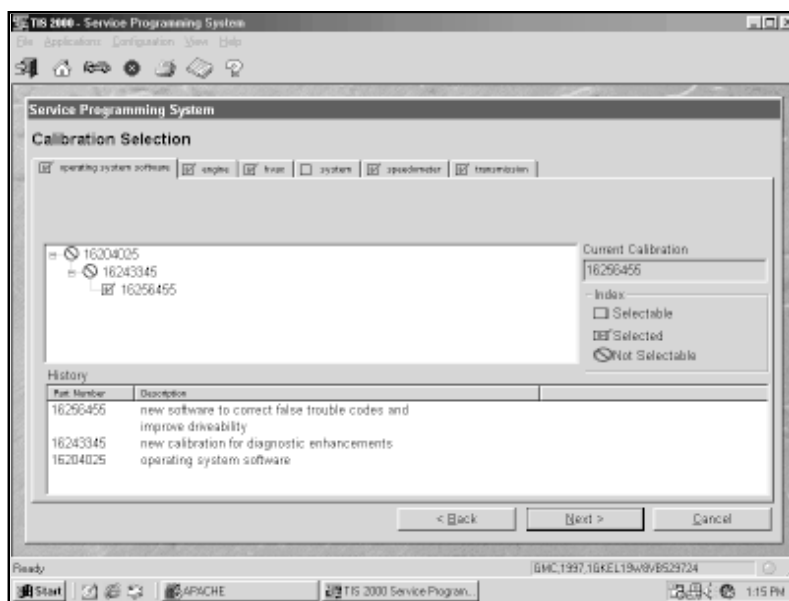

Figure I-10, VCM Calibration File Selection
- Vehicles with VCMs will display a screen similar to the one shown in Figure I-10. It contains multiple tabs one for each distinct calibration file contained in the VCM. With these vehicles, it is necessary to make a selection within each tab, otherwise the system will display the message like the one shown in Figure I-11 indicating that not all selections have been made. (Notice the unchecked box in the System tab.)